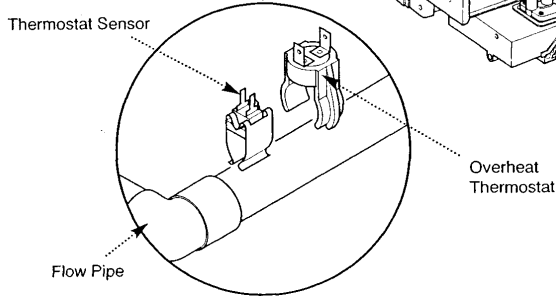

Fig. 76
3. The top flow connection incorporates the boiler thermostat and overheath thermostat (Fig. 76).